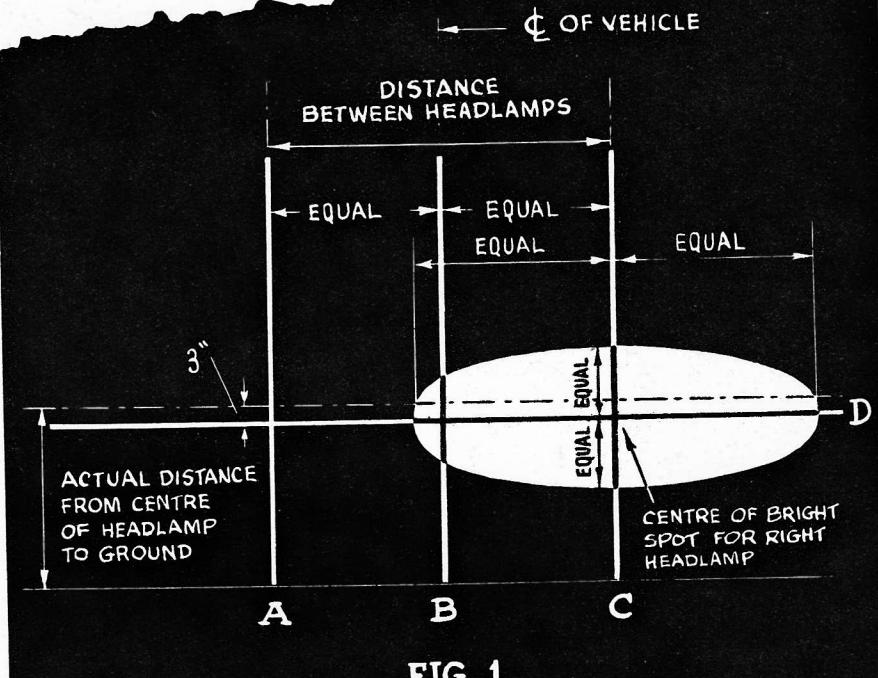
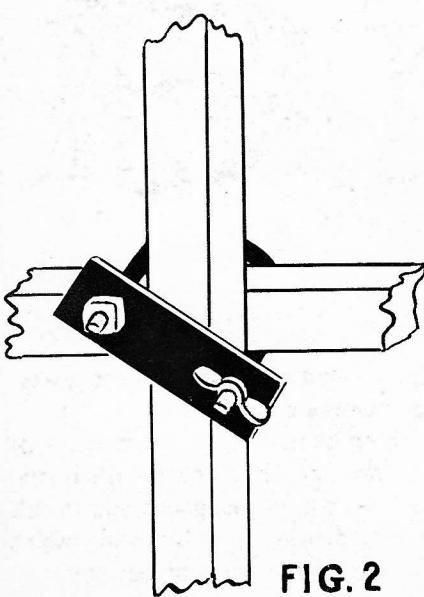

FIG. 1
FIG. 2
lines as shown in the diagram. As the distance between headlights and their distance above the ground will vary with each type of vehicle you may need several screens to take care of all your vehicles. If you want to really do a smart job, get hold of some $2'' \times 1''$ or $1'' \times 1''$ wood and make up this universal aiming gauge. You need four poles—one of them 10 or 12 feet long for your horizontal line (D) (Fig. 1) three of them approximately five feet long for your vertical lines (A-B-C) (Fig. 1). Three 'U' clamps will hold them together (Fig. 2) and allow you to adjust them for any type of vehicle by following the diagram. Paint them white and lean them against a light coloured wall and you're all set to start aiming.